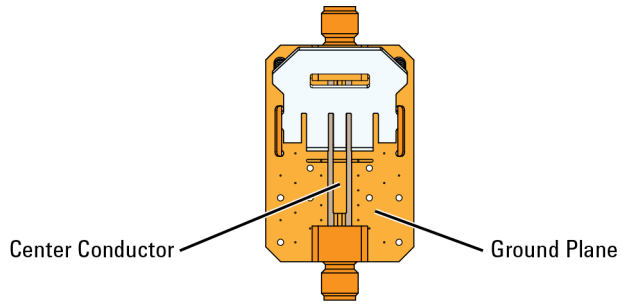

Figure 28 Probing Locations on PV Fixture
- 20 Use a probe positioner to gently place the probe pin tips onto the PV fixture's center conductor and ground plane as identified in **Figure 28** on page 37.